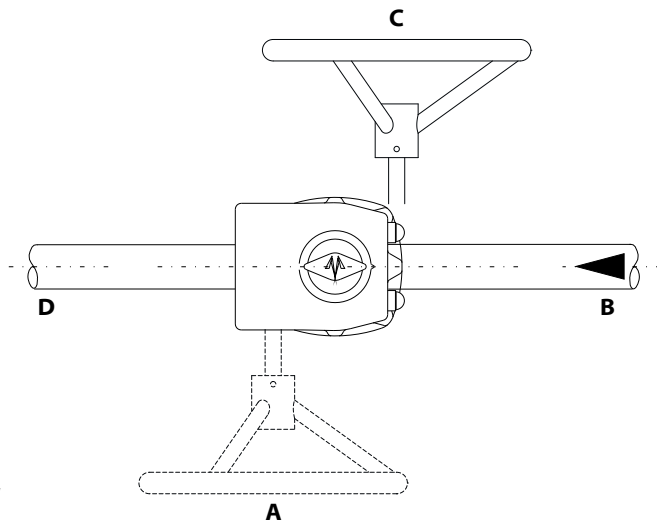

Fig.3-1
3. Select the desired gear mounting position (A or C) from the optional positions shown on the (→ Fig.3-1). Put the gear on the valve shaft, and slide the gear into position on the top of the valve.